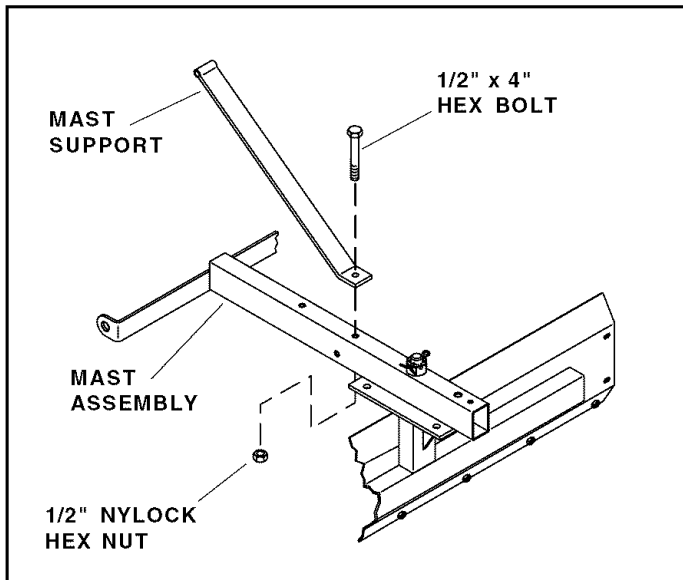

FIGURE 4
- Attach the mast support to the hole in the mast assembly just in front of the threaded stud. Use a 1/2" x 4" hex bolt and 1/2" Nylock hex nut installed so that the nut is on the bottom side of the mast assembly. **Do not tighten yet.** See figure 4.